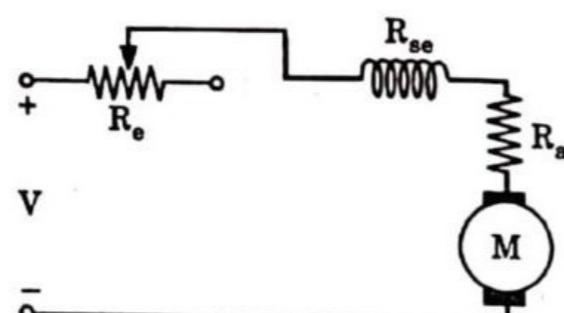

Fig. 3.11.5. Speed-control of a DC series motor by armature resistance control.
3. Fig. 3.11.5 shows the method of connection of external resistance R_e in the armature circuit of a DC series motor.